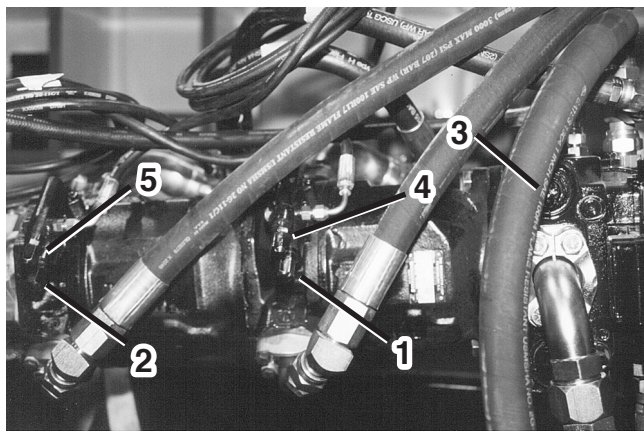

Figure 26. Pumps
3) To make an adjustment, use a 17mm wrench to remove protective cap from set screw located to the rear of each pump on the curbside of the chipspreader. The standby pressure adjustment is the higher of the two adjustments at the rear of the pump (Fig 26 Ref 4).
7) To make an adjustment, use a 17mm wrench to remove protective cap from relief set screw located to the rear and curbside of the pump. Of the two adjustments at this location, the high pressure relief is the lower one of the two (Fig 26 Ref 1).
3) To make an adjustment, use a 17mm wrench to remove protective cap from set screw located to the rear of the pump on the curbside of the chipsreader. The standby pressure adjustment is the higher of the two adjustments at the rear of the pump (Fig 26, Ref 4)
7) To make an adjustment, use a 17mm wrench to remove protective cap from relief set screw located to the rear and curbside of the pump. Of the two adjustments at this location, the high pressure relief is the lower one of the two (Fig 26, Ref 1).